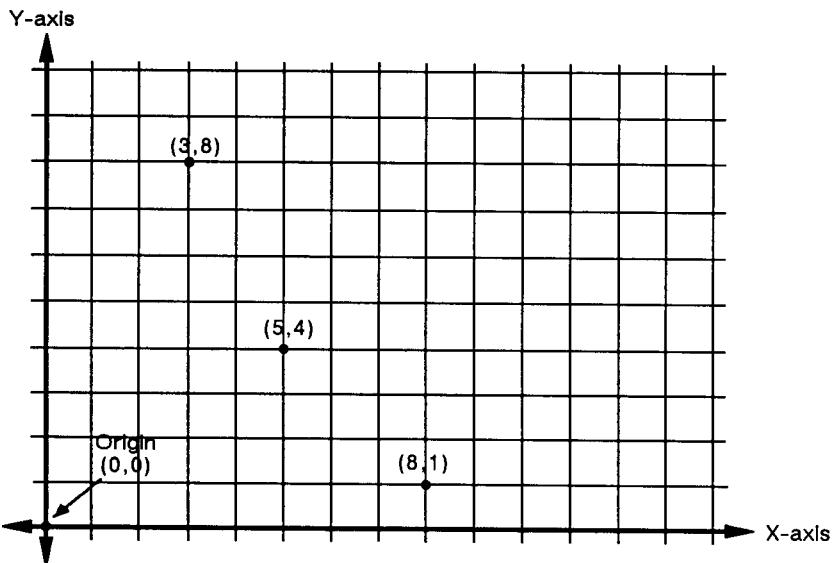
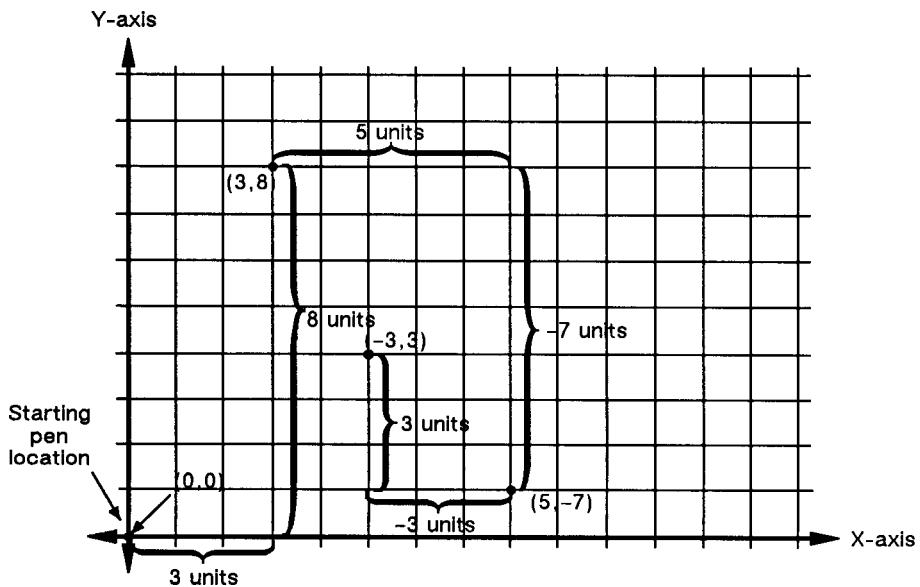

Figure 17-6. Absolute Coordinates
Figure 17-7. Relative Coordinates
The Plot Absolute (PA) and Plot Relative (PR) commands allow you to set whether you want to draw using absolute or relative “pen” moves. *Absolute* pen movement uses X,Y coordinates to specify an exact, fixed point relative to the origin (0,0). In Figure 17-6, the coordinates (3,8), (5,4), and (8,1) are always in the same place with respect to the origin, no matter where the pen is when the coordinates are issued.
In Figure 17-7 for example, assume that the pen is currently at the origin (0,0). To move to the absolute points shown in Figure 17-6 using relative coordinates, count 3 units to the right and 8 units up from the current pen location; these are both positive directions with respect to the origin. This is the relative location (3,8). Now move 5 positive X-units and 7 negative Y-units from this location to the lower point; this is the relative location (5,-7). From this location, move to the last point by moving 3 negative X-units and 3 positive Y-units (-3,3).